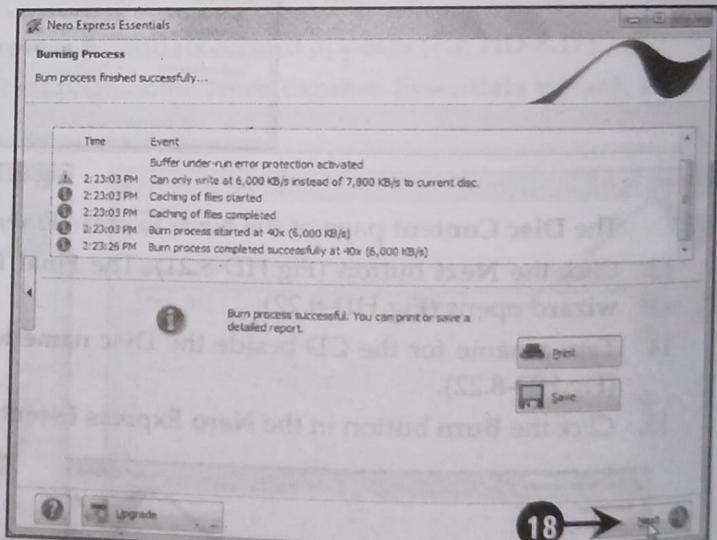

Fig.HD-8.26
- Click the Next button in the Nero Express Essentials wizard, as shown in Fig.HD-8.26: